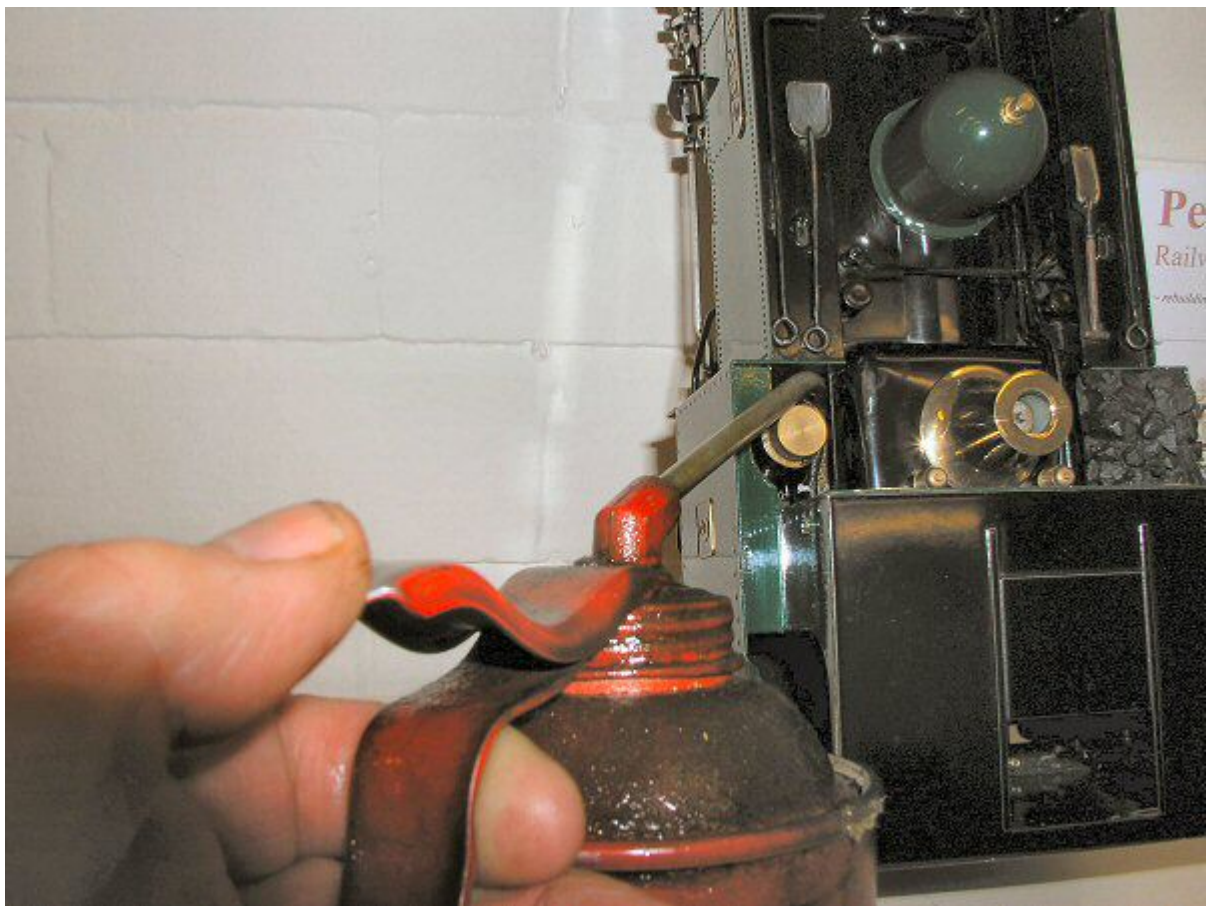

FIG 2. Position for lubrication.
- Carefully stand the loco on its rear buffer, leaning against a wall or other large object, as shown in Fig2. Ensure that the model cannot fall over.